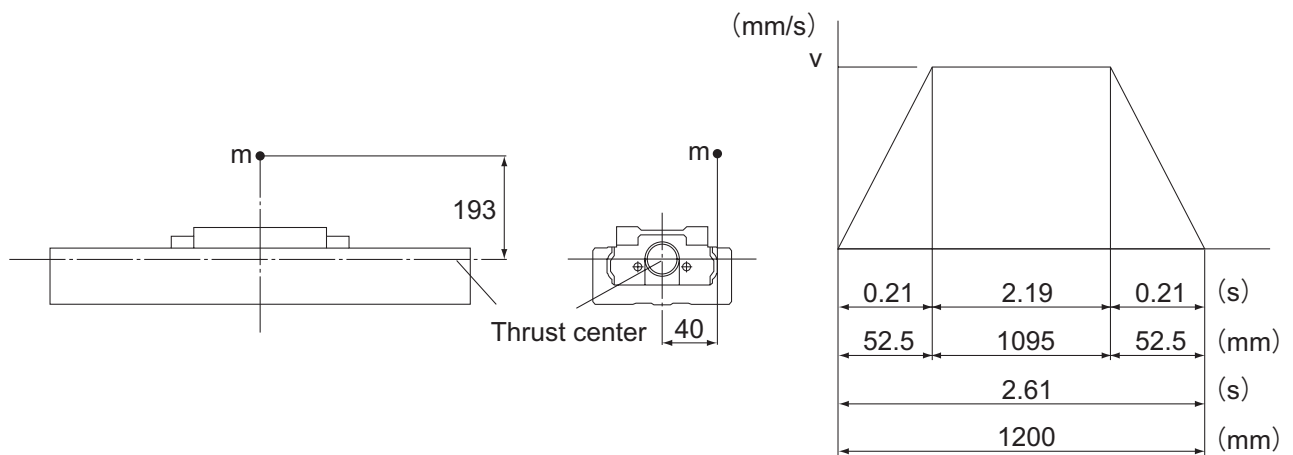

Fig.1 Velocity Diagram
- Velocity diagram : see Fig.1